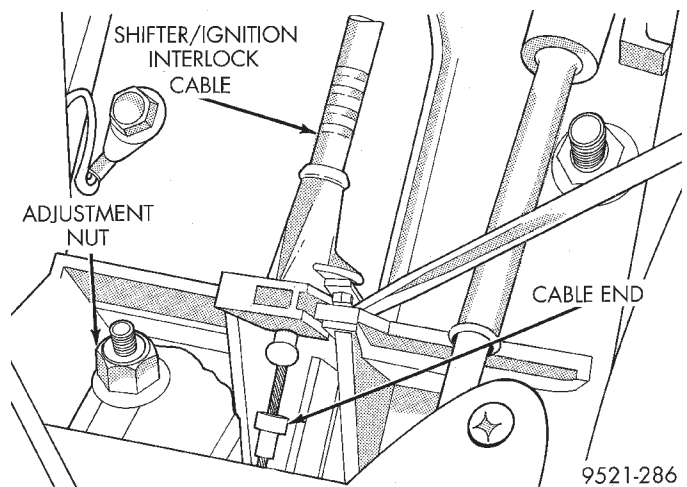

Fig. 250 Interlock Cable
- (5) Move ignition key to the RUN position.
- (6) Remove the interlock cable from the shifter housing (Fig. 250). Slide the cable out of the groove in the interlock lever.